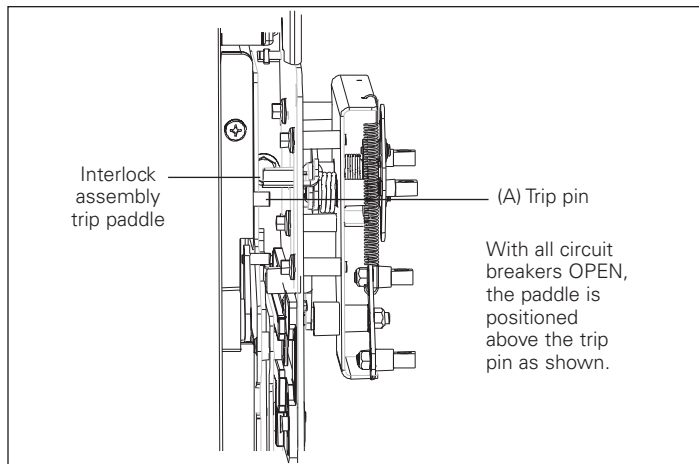
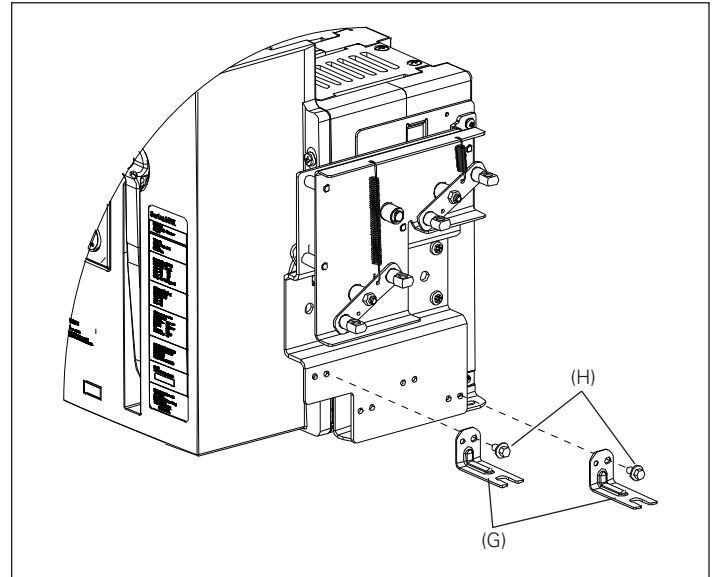

Figure 8. Details for Step 5
Figure 9. Details for Step 6
Fasten the fixed mounting bracket (K) to the right side fixed breaker mounting foot using three M6 x 10 mm thread-forming screws (H) as shown in **Figure 9**. Torque to 7,3–9,6 N·m (65–85 in-lb). Ensure that once attached to the breaker, the trip paddle is above the trip pin on the trip bar as shown in **Figure 8**.
Fasten two cable brackets (G) to the right fixed mounting bracket (K) just below the interlock assembly (mounted in **Steps 5, 6, and 7**) using two M6 x 10 mm thread-forming screws (H) as shown in **Figure 9**. Torque to 7,3–9,6 N·m (65–85 in-lb).